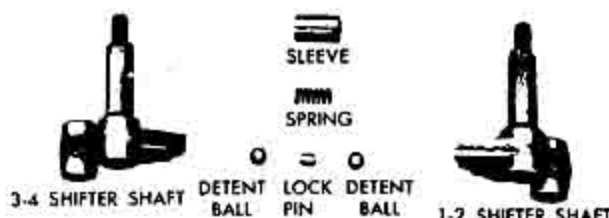

Fig. 11 Side Cover Assembly - Exploded View
2. Slowly push shifter shafts into cover, allowing detent balls (2) to fall free and then remove both shifter shafts (Figure 11). Note that 3-4 shifter shaft has a detent cavity on its shaft.
4. If found to be leaking, pry out shifter shaft lip seals (2) from side cover and discard them.
2. Insert 3-4 shifter shaft (contains a detent cavity on its shaft) into forward bore of side cover, place it in neutral and then install detent ball, interlock sleeve and poppet spring with its lock pin in position (Figure 11).